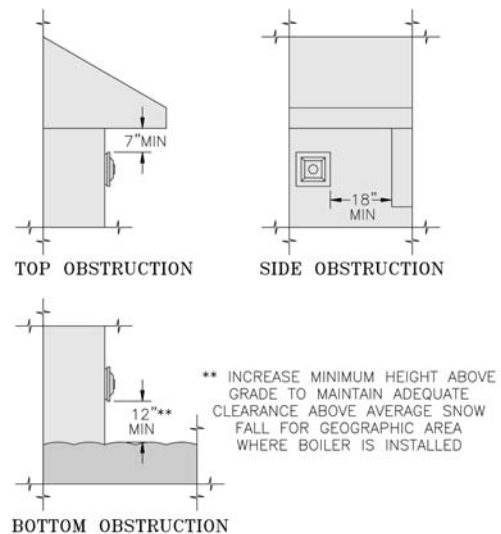

Figure 2
Boiler must also be positioned to provide minimum clearances between edge of vent terminal and exterior obstructions. Provide minimum overhang clearance of 7", minimum above grade clearance of 12" and minimum side obstruction clearance of 18". (See Figure 2).
e. Locate the vent terminal in relation to adjacent public walkways, adjacent buildings, operable windows and buildings, consistent with the National Fuel Gas Code Z223.1: Minimum clearance of 4 feet horizontally from and in no case above or below (unless four [4] foot horizontal distance is maintained), electric meters, gas meters, regulators and relay equipment. At least 12" from any door, window or other building opening. A minimum of 12" above grade, 7" from any overhang, 18" from any side obstruction or wall and 3' away from any adjacent building. Increase minimum height above grade to maintain adequate clearance above average snow fall for geographical area in which unit is installed. If the unit is to be vented over a public walkway, it must be at least 7" above grade. If the vent terminal is to be within 10' of a building fresh air intake, it must be at least 3' above the opening. In addition, avoid venting the unit in corners, niches or areas which might have reduced fresh air circulation. (See Figure 2).